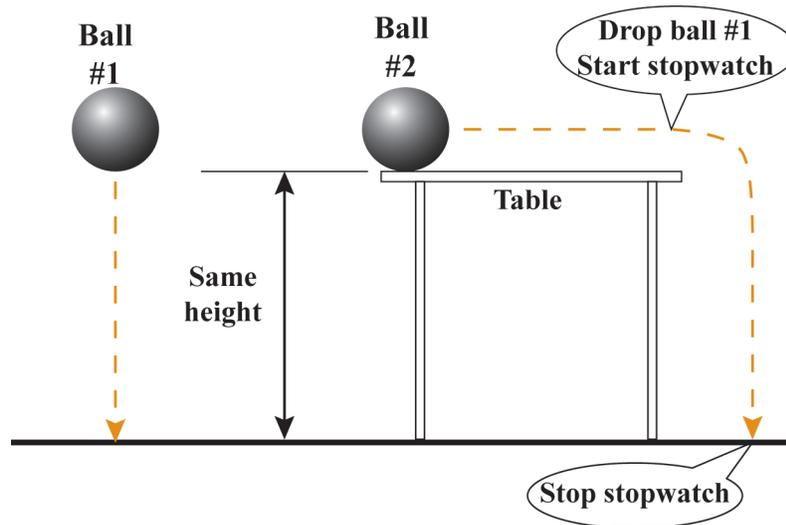

Figure 6
- 1. Have one person be in charge of rolling a ball off a table. See Figure 6.